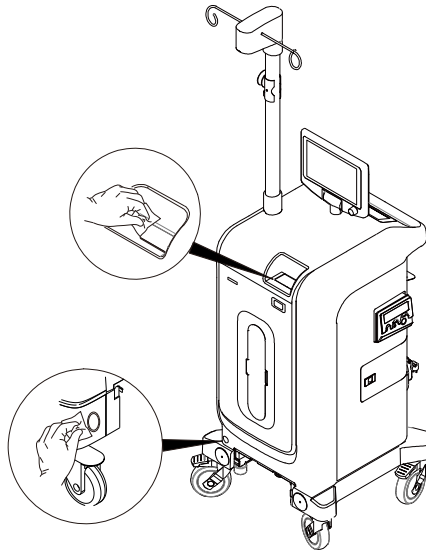

Figure 44 To wipe down the rover
1. Wipe all external surfaces of the rover with a soft, lint-free cloth moistened with a non-abrasive, hospital disinfectant (Surface disinfectant decontaminant cleaner - CaviCide®). Pay particular attention to highlighted critical areas such as the handle, control panel, communication window, and Manifold receptacles about one minutes(Figure 44).